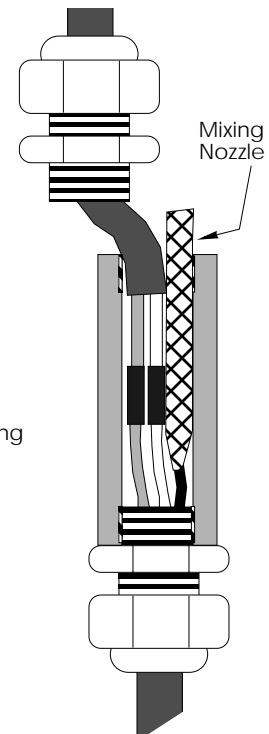

Figure 4
9. Slide the coupling pipe bushing assembly over the spliced wires as shown in Figure 4, and secure in place by tightening the compression bushing
12. Insert the mixer nozzle as far as possible into the open end of the coupling pipe as shown in Figure 4. Fill the inside of the pipe, from the bottom, up, withdrawing the mixer nozzle slowly as the pipe fills. Fill the pipe to the top of the threads, taking care not to leave any air inside the pipe.